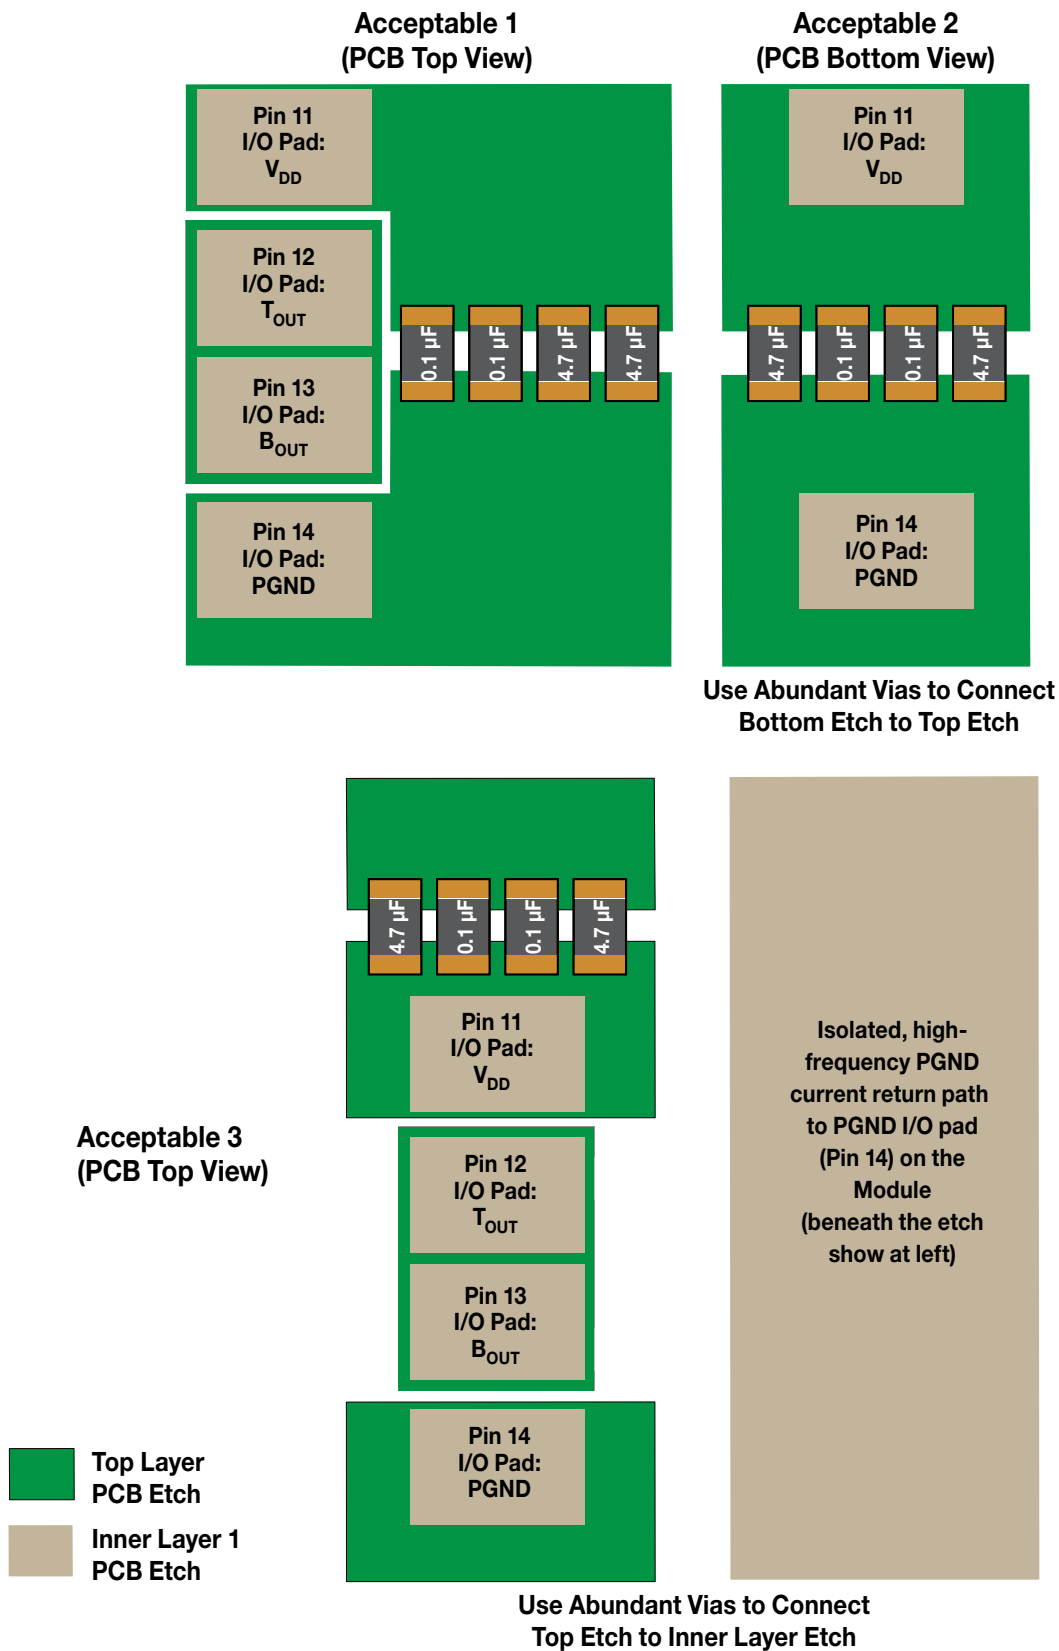

Figure 21. Recommended V_{DD} -to-PGND Power Supply Bypassing (Not to Scale)
The power supply pins and return pin of the FBS-GAM02-P-R50 require proper high frequency bypassing to one-another in order to prevent harmful switching noise-related spikes from degrading or damaging the internal circuitry in the FBS-GAM02-P-R50 module. The more critical bypassing situation is related to the V_{DD} supply to PGND (Pin 14), which bears the high rate-of-change voltages and currents associated with the internal eGaN[®] power switches interacting with a load. It is recommended that a minimum of two (2) 4.7 microfarad ceramic capacitors, one (1) 1.0 microfarad ceramic capacitor and one (1) 0.1 microfarad ceramic capacitor, all with 100 V_{DC} ratings, be connected from V_{DD} to PGND. All four of these capacitors should be low ESR types, if possible. It is strongly recommended that these capacitors inscribe the smallest possible loop area between V_{DD} and PGND so as to minimize the inductance related to this loop area. Figure 21 illustrates three instances of recommended and acceptable V_{DD} -PGND bypassing, as implemented in PCB copper etch. Regardless, different end-use implementations will require different V_{DD} bypass capacitor placements, and it is strongly recommended that the chosen bypassing scheme be evaluated in hardware for its effectiveness.
Figure 28. Maximum Dead Time (t_{dt}) vs. Switching Frequency (f_{sw}) vs. Module Case Temperature (T_c), $I_o = 10 \text{ A}$, Half-Bridge Configuration (Refer to Fig. 21).